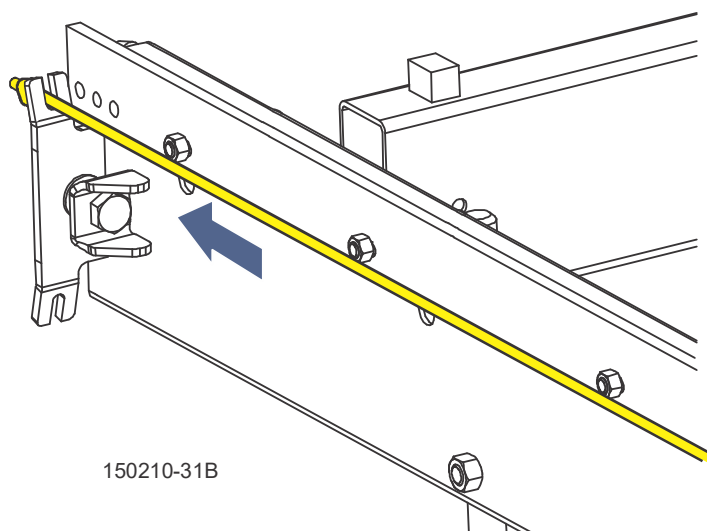

FIG. 3-14
13. Position the knot in the rope so when installed to the rear bracket, the rope is tight. See FIG. 3-14.